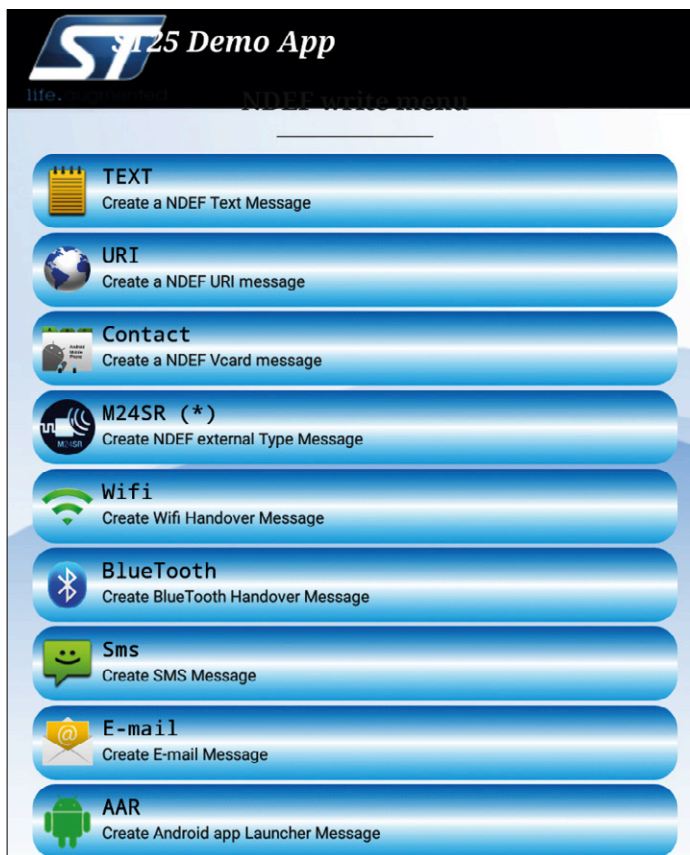
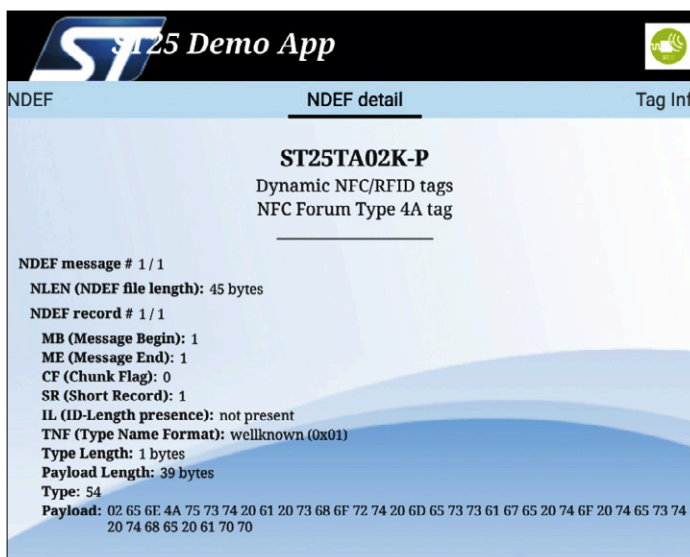
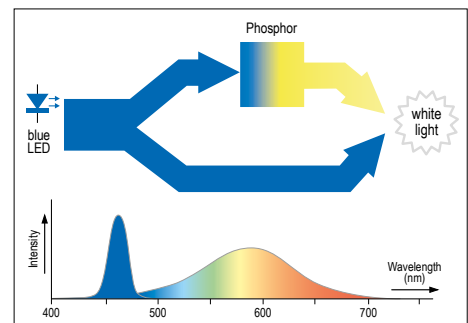

Figure 4. Compose your NDEF message.
Figure 5. Reading the NDEF contents (can you read the message?)
Figure 3. Working principle and spectrum of a one-chip white LED with a phosphor layer for light conversion and mixing.
STMicroelectronics have developed an Android app called the ST25 demo app [1]. This allows you to read the contents of the tag's files stored in memory (executable STSW-ST25001 and source code STSW-ST25002) and to write an NDEF file to the tag (**Figure 4**) to generate the type of action you wish the tag to perform when it is tapped by an NFC smartphone or tablet. The app allows you to read the files stored in STMicroelectronics tags. **Figure 5** shows the information available on the NDEF file; if you are any good at translating hex to ASCII you can read the short message payload I wrote on my card. Further scrolling gets you to the TAG info showing the tag's 14-character (56-bit) UID and its memory size.
▶ Try decoding the ASCII message in Figure 5
However, multi-chip designs of this sort are too complicated and expensive for normal applications. The solution came from a genial invention in 1995 by Jürgen Schneider at the Fraunhofer Institute for Applied Solid-State Physics. Shortly before he retired, he managed to develop a one-chip white LED with a phosphor layer for color conversion. In concrete terms, that means a blue LED coated with a phosphor material. It works on the same principle as a fluorescent lamp: part of the blue light gets converted to longer-wavelength yellow light. This effectively amounts to additive color mixing, as illustrated in **Figure 3**. There you can see the resulting light spectrum at the bottom, with the peak of the original blue light and the relatively broad spectral band of the phosphor. The combination of this broad band (instead of pure yellow light) and suitable spectral mixing yields the desired white light effect with only two colors. **Figure 4** shows a modern high-power LED from Lumileds, with the yellowish phosphor layer completely covering the LED chip. Low-cost 5 mm indicator LEDs selling for just 10 cents each have a similar structure.
Economical non-RGB white LEDs have become the standard. They are used in virtually all LED lamps for household use (**Figure 5**), street lamps (**Figure 6**),
Figure 4. A modern ultra high power LED: the Luxeon CoB 1216. It consists of many blue LEDs mounted on a ceramic substrate and wired in series, all covered by a phosphor layer. This LED produces an astonishing luminous flux of 15,000 lumen.